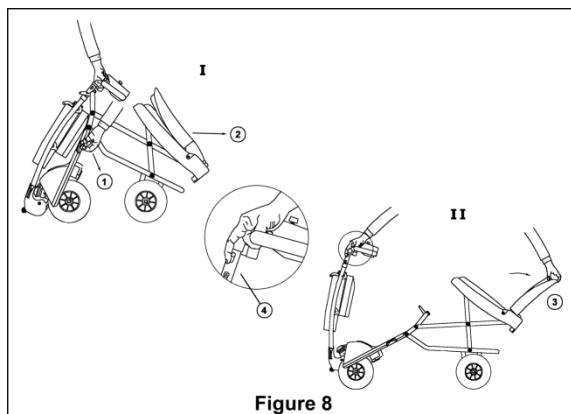

Figure 8
Step 1: Pull on the frame lock pin ring (Fig. 8/1) to release platform and rest front wheels on floor.
Step 2: Pull the seat backrest and lift it upright. (Fig. 8/2)
Step 3: Grasp top of seat backrest (Fig. 8/3) and pull column lock triggers (Fig. 8/4) to release column from platform. Pull outwards to unfold